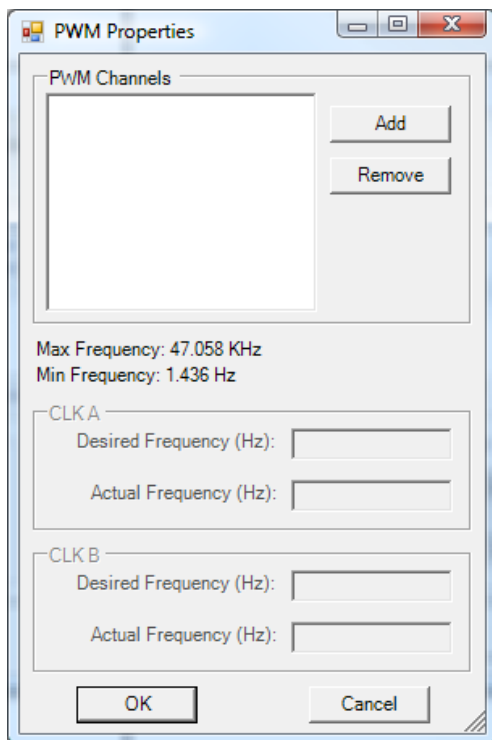

Figure 2.9 - PWM Properties Window
3. Click the **PWM PROPERTIES** button. The PWM Properties Window will open. Refer to Figure 2.9.
7. Enter the desired frequency for Clock A and Clock B (if installed). The HEC has 6 available PWM Channels. These channels are either controlled with Clock A or Clock B. This allows two different PWM frequencies. The Minimum and Maximum frequencies are displayed in the PWM Properties dialog. The frequency for Clock A and Clock B must be in this range. Refer to Figure 2.9.